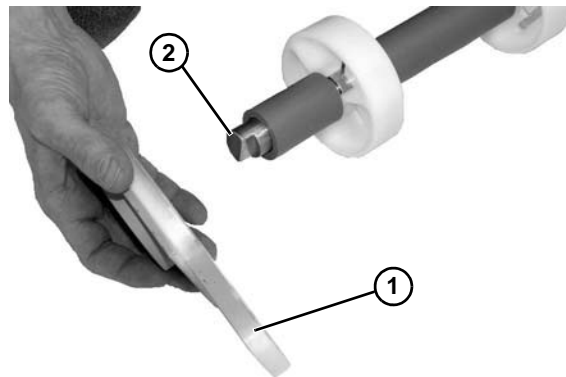

Figure 48
4. Slide off idler head plate (Figure 48, item 1) from shaft (Figure 48, item 2).